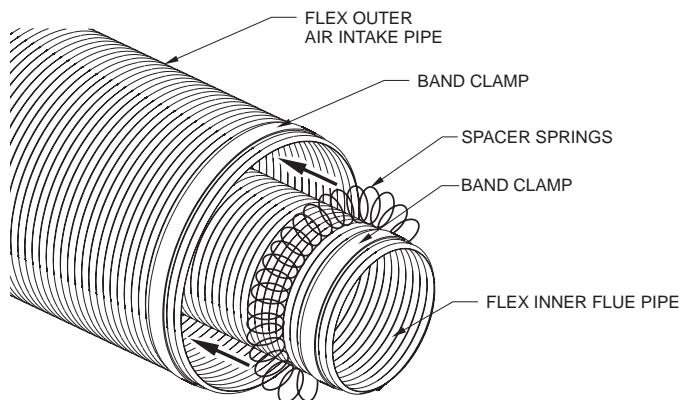

Figure 72
- Locate the inner flex vent which has a pre-assembled flue collar connector and attach the spacer springs by interlocking the end of the springs about 2 inches. The springs should be spaced evenly apart starting at 12 inches from the fireplace flue collar. **See Figure 72.**